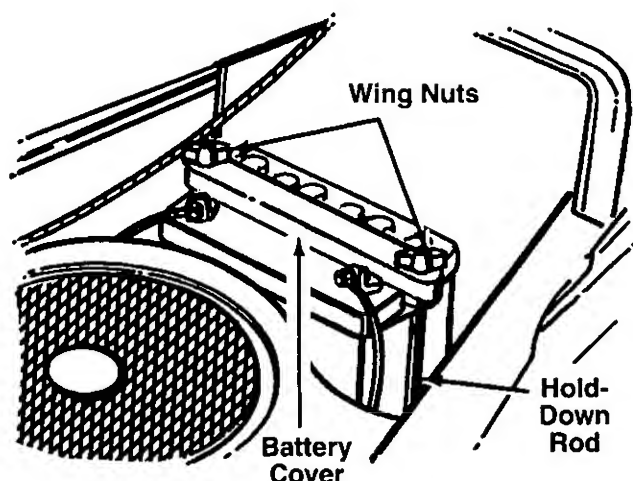

FIGURE 10.
1. Lift the hood of the tractor. Remove the wing nuts from the hold-down rods which secure the battery cover to the battery. See figure 10.